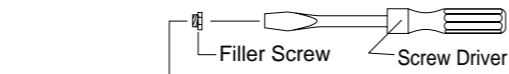

Fig. 8
- 1 Remove the filler screw of air intake inlet with a screw driver. (Fig. 8)